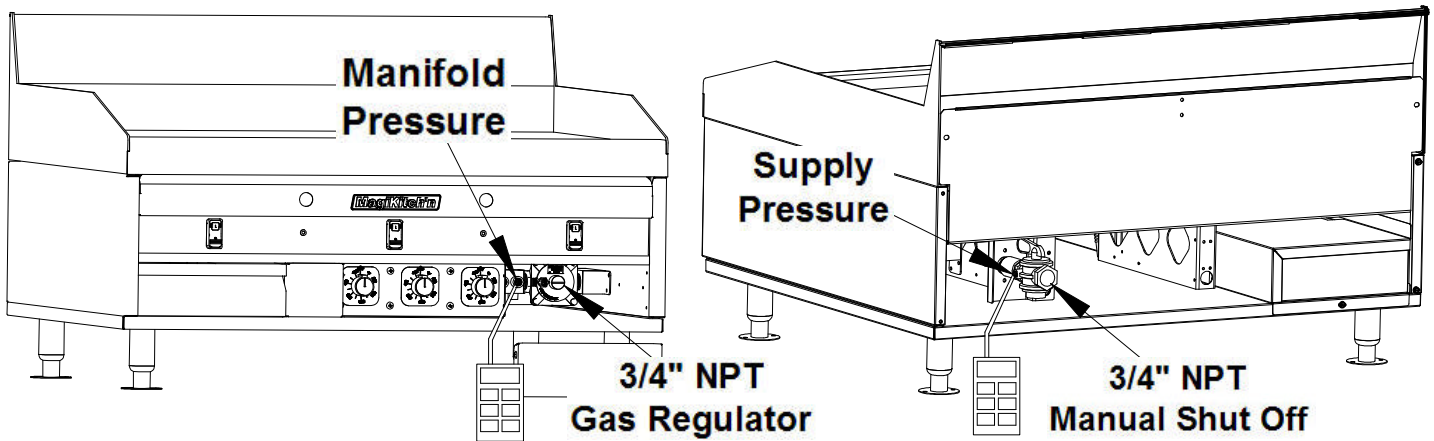

Figure 6
1. The gas input regulator for your new appliance has been installed at the factory, See Figure 6 for the location of the regulator and the manual shut off valve equipped on your appliance. Using a regulator other than the one supplied with the unit will void the warranty.
2. The manifold pressure must be maintained at the pressure marked on the Data plate. The manifold pressure reading is taken at the 1/8" NPT coupling located behind the lower front panel next to the gas regulator, see Figure 6. To check the supply pressure to the appliance use the pressure test point supplied on the manual shut off valve, also see Figure 6.
Orifices are sized to provide proper gas flow to the rated BTU/hr for each model. Regulator pressure must be measured and adjusted before the unit goes into service, following installation and when operational performance is in question. The manifold and supply pressure readings are taken at the pressure test points provided, see Figure 6.
2. Turn the Manual gas shut off valve to the "ON" position, this valve is located at the rear of the unit, see Figure 6. To open the valve to allow gas flow the handle should be in line with the manual shut off valve.